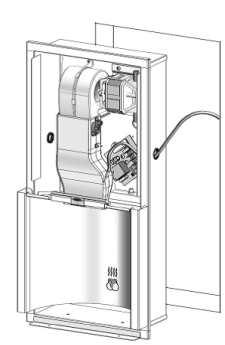

Fig. 4
5. Provide electrical service from nearest distribution panel to dryer mounting base in conformance with local electrical codes. Use wire as required by local electrical code, No. 12 (3.31mm² dia.) wire or larger. (See Fig. 4)